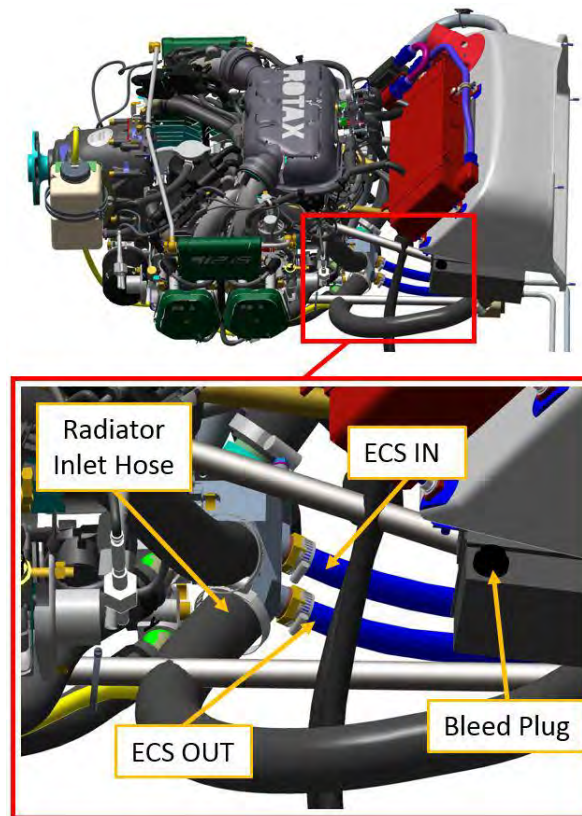

FIGURE 16-37
- a. Locate the radiator hose that connects the coolant thermostat to the radiator inlet (see Figure 16-37). Loosen the radiator hose clamp at the thermostat and pull the hose off the thermostat housing.
- a. Locate the two ECS hoses where they attach to the forward face of the thermostat.(See Figure 16-37)
7. Remove the bleed plug on the top-right-aft corner of the radiator with a 3/16 hex wrench (see Figure 16-37).